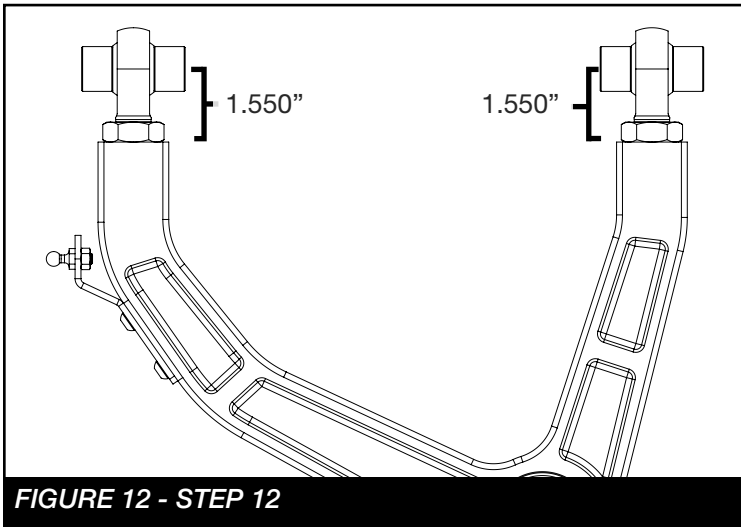

FIGURE 12 - STEP 12
12. Install the rod ends into FT20861 & FT20862 (Upper control arm). Measure 1.5" from the center of the rod end to the control arm, tighten the jam nut. **SEE FIGURE 12**